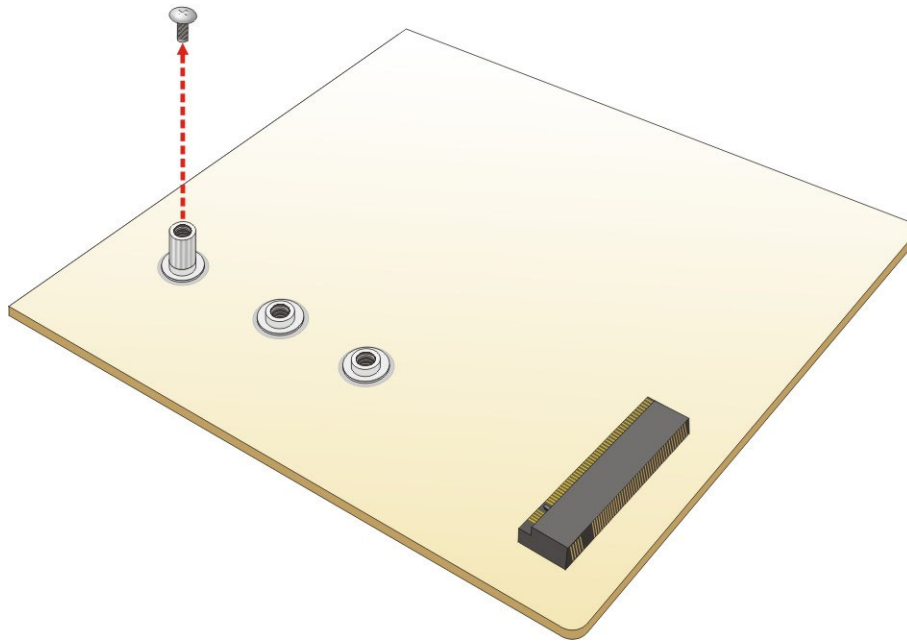

Figure 4-2: Removing the M.2 Module Retention Screw
Step 2: Remove the on-board retention screw as shown in **Figure 4-2**.